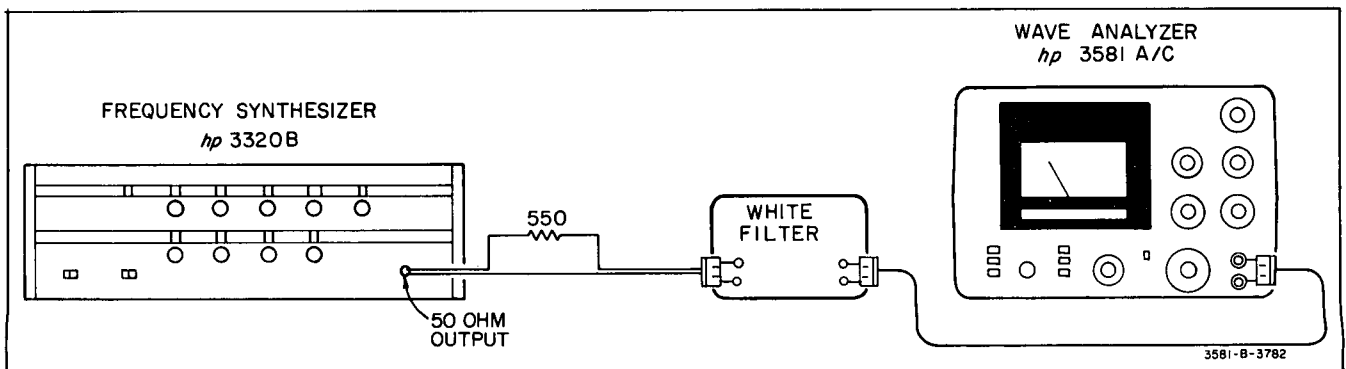

Figure 5-2. Spurious Response Test.
b. Connect the Frequency Synthesizer to the input of the Bandpass Filter as shown in Figure 5-2. Use a series compensating resistor to make the output impedance of the Synthesizer (or other source) match the input impedance of the Filter. The White 2640 Filter has an input impedance of 600 ohms. If the source impedance is 50 ohms, a 550 ohm compensating resistor is required.